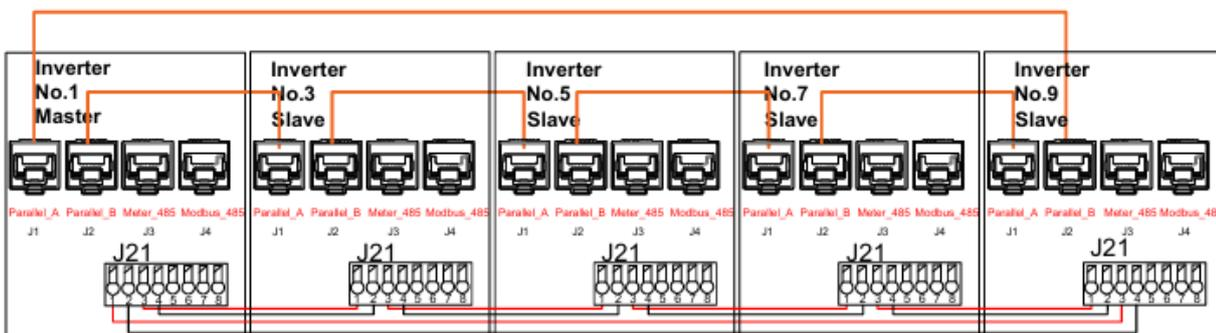

Figure 4.5 Parallel cable connection
- b) Please check whether the parallel cable connection is correct as shown in Figure 4.5.